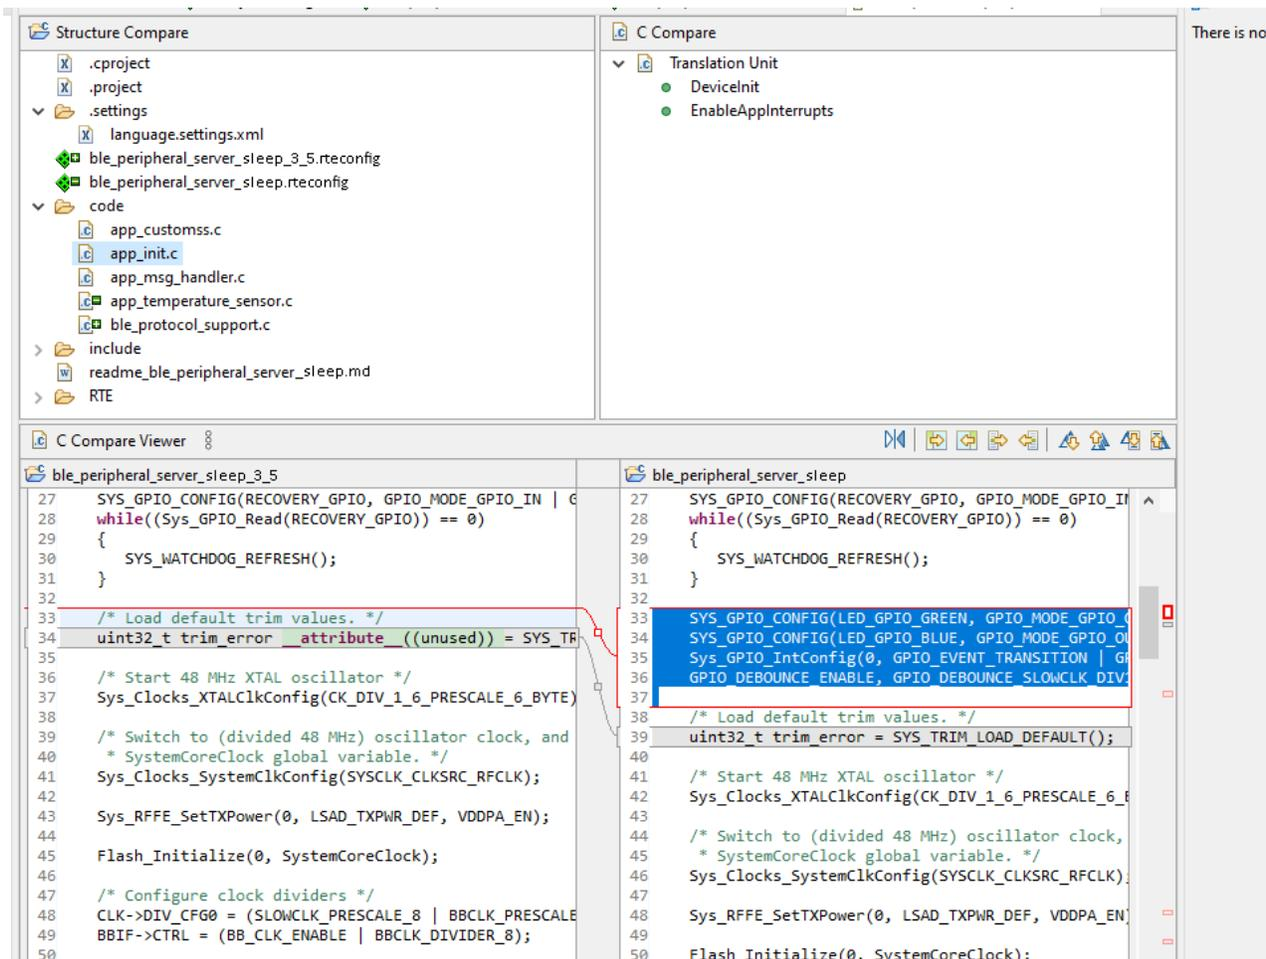

Figure 20. Changes Shown Between Application Versions
7. The output shows all the files and the changes within the files, as seen in the "Changes Shown Between Application Versions" figure (Figure 20).